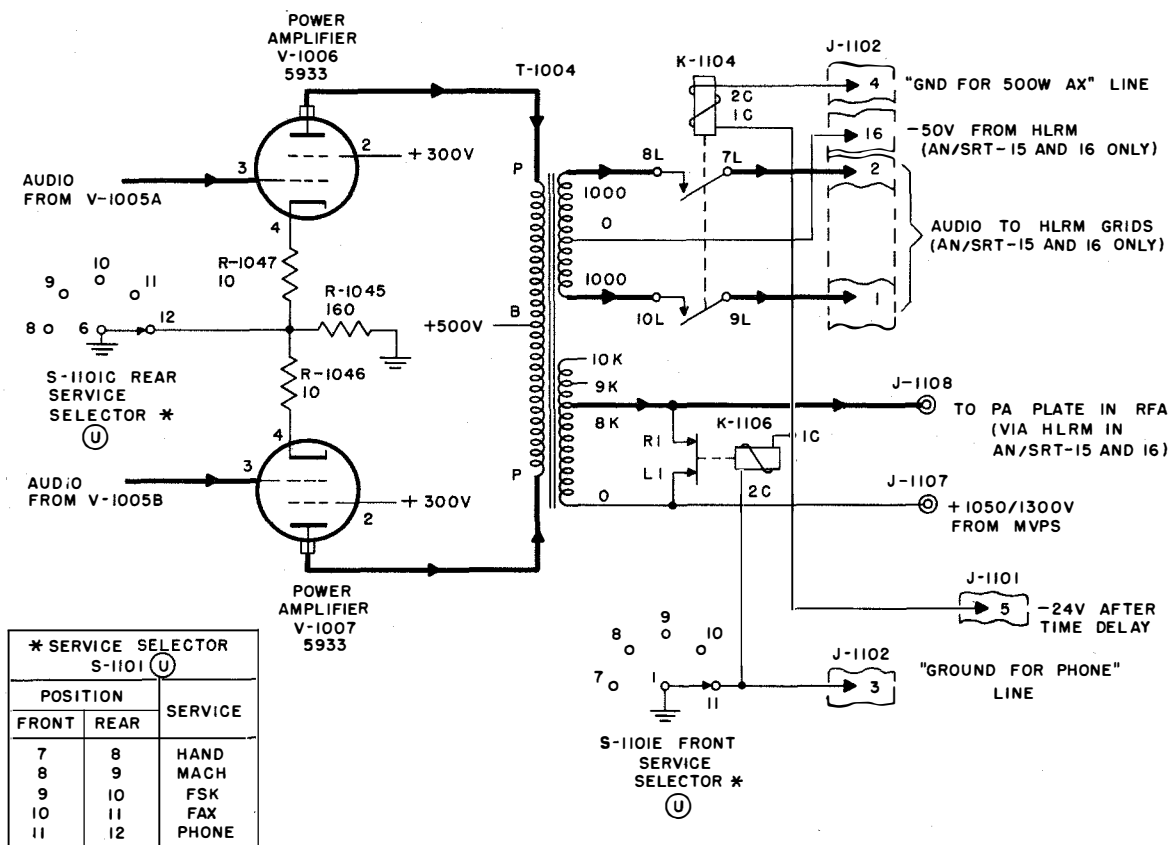

Figure 2-78. Power Amplifiers V-1006 and V-1007, Simplified Schematic
(c) POWER AMPLIFIERS V-1006 AND V-1007.—The control grids of the power amplifiers, V-1006 and V-1007, pins 3 (figure 2-78), are tied directly to the cathodes of the preceding cathode follower stage. As stated in the preceding discussion, the no-signal grid bias on the control grids of the power amplifiers is approximately -40 volts. With a screen voltage of +300 volts and a plate supply of +500 volts through the primary of modulation transformer T-1004, this value of bias is such that this stage operates as a class AB₂ push-pull amplifier, which provides high power outputs with high plate efficiency and low distortion. With the SERVICE SELECTOR switch (U), S-1101, in the PHONE position, the common cathode resistor, R-1045, to ground is shorted out through contacts 6 and 12 of S-1101C rear. In the HAND and MACH positions, R-1045 is in the circuit, adding degeneration so the push-pull amplifiers operate at the proper current drain values required for the dumping action.